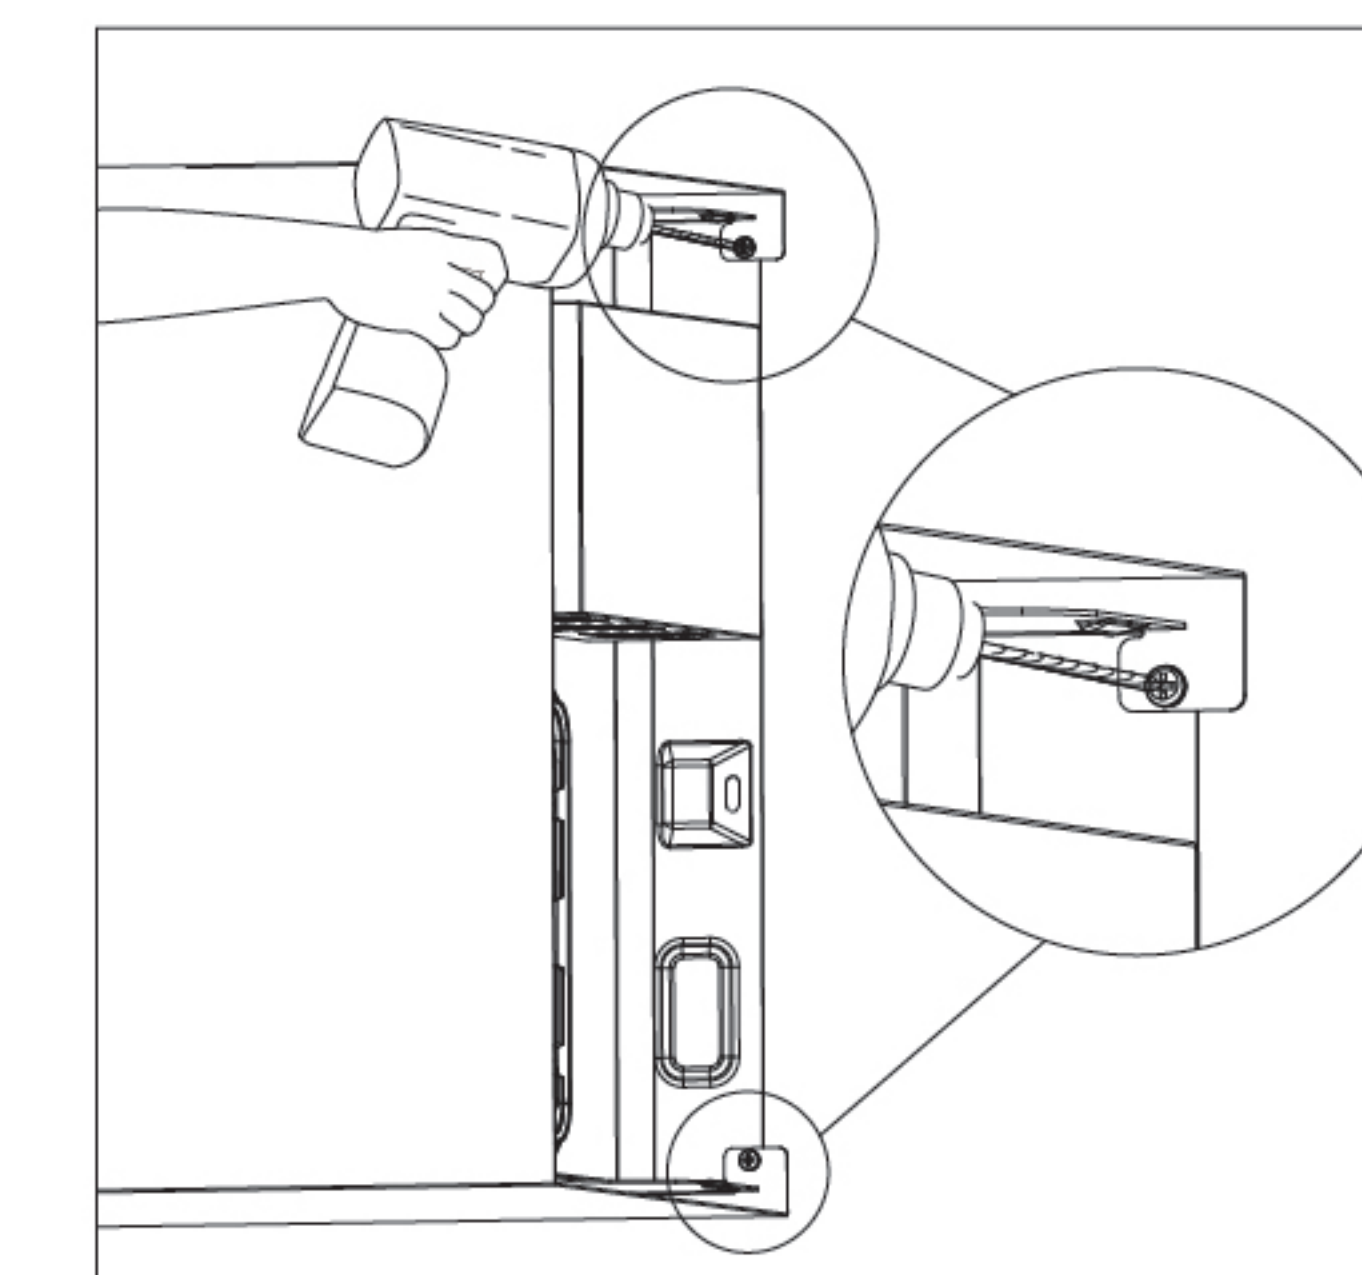
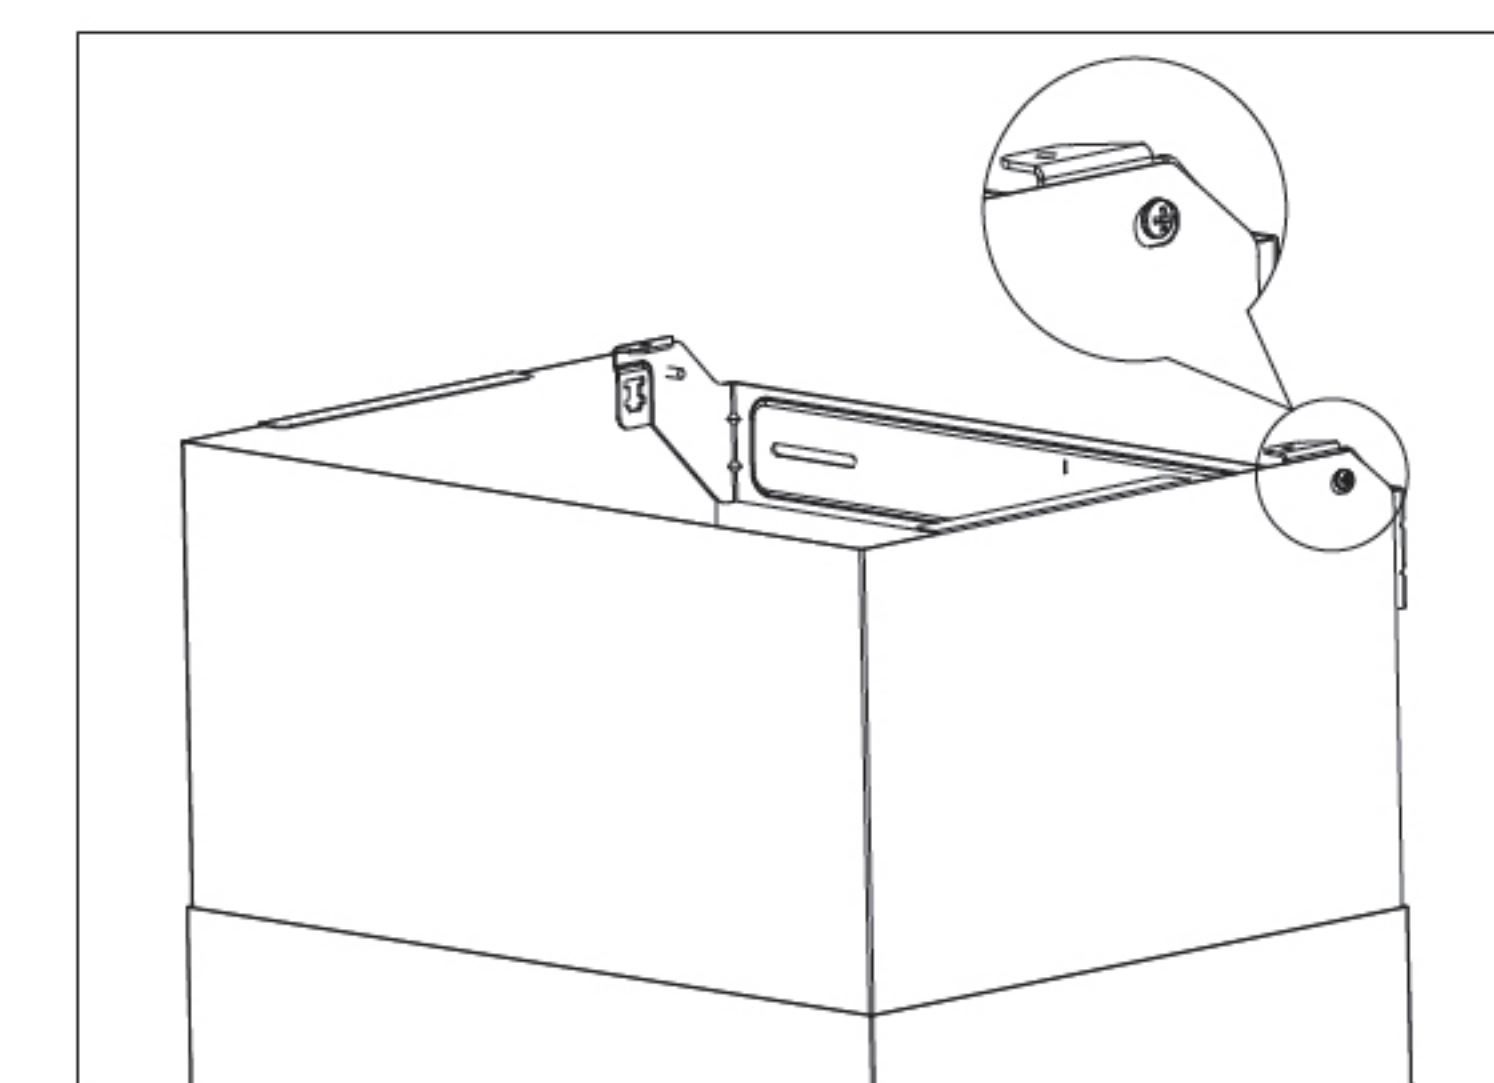

Fig.13
Fig.21
4. Take out the fan assembly; remove two fastening screws on the fan cover (on both ends of the top of the fan frame) with a cross screwdriver; and take out the fan cover and the decorative cover (as shown in Fig. 13).
- 4) Fix the fan cover with the fan frame with 2 M4×6 screws (as shown in Fig. 13). ; Take up the decorative cover and place it on the decorative cover hook; fasten the silver M4×8 tapping screws on both sides of the decorative cover hook (as shown in Fig. 21).